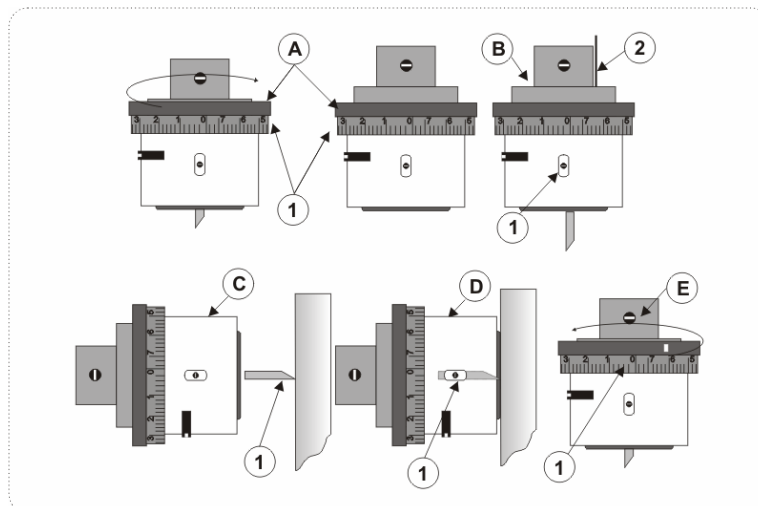

Figure 9 – Exchange of the cutting knife
The order for exchange of the cutting knife is shown on figure 9.
- Take the plastic cup of the cutting tool with your right hand. Rotate the large regulating screw clockwise with your left hand to the end. The cutting knife should fully retract inside the cutting tool – Figure 9, A, Step 1;
- Untighten the fixing screw of the cutting knife – Figure 9, B, Step 1;
- Using a pin or a paper clip, push the cutting knife outside of the cutting tool – Figure 9, B, Step 2;
- Turn the cutting tool horizontally so that the fixing screw is towards you – Figure 9, C & D;
- Place the cutting knife (sharp edge upwards) inside the slot of the cutting tool and with a wooden block push it inside until it fully disappears – Figure 9, C, Step 1;
- Tighten the fixing screw of the cutting knife – Figure 9, D, Step 1;
- Turn the cutting tool vertically. Take the cup of the cutting tool with your right hand. Rotate the large regulating screw counter clockwise with your left hand until the cutting knife appears and reaches the desired height – Figure 9, E, Step 1;